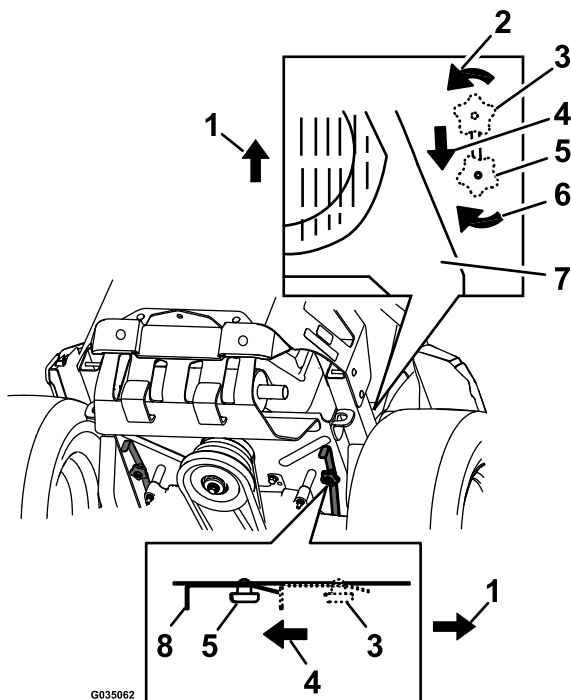

Figure 36
4. To push the machine, move both bypass knobs rearward and lock them into place (Figure 36).
6. To run the machine, move the bypass knobs to the FORWARD position and lock them into place (Figure 36).